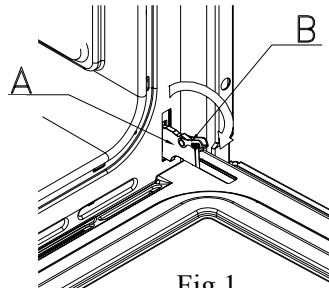

Fig.1
**Remember to rotate the two movable bolts “B”** used to hook the two hinges before closing the door. (Fig.1).